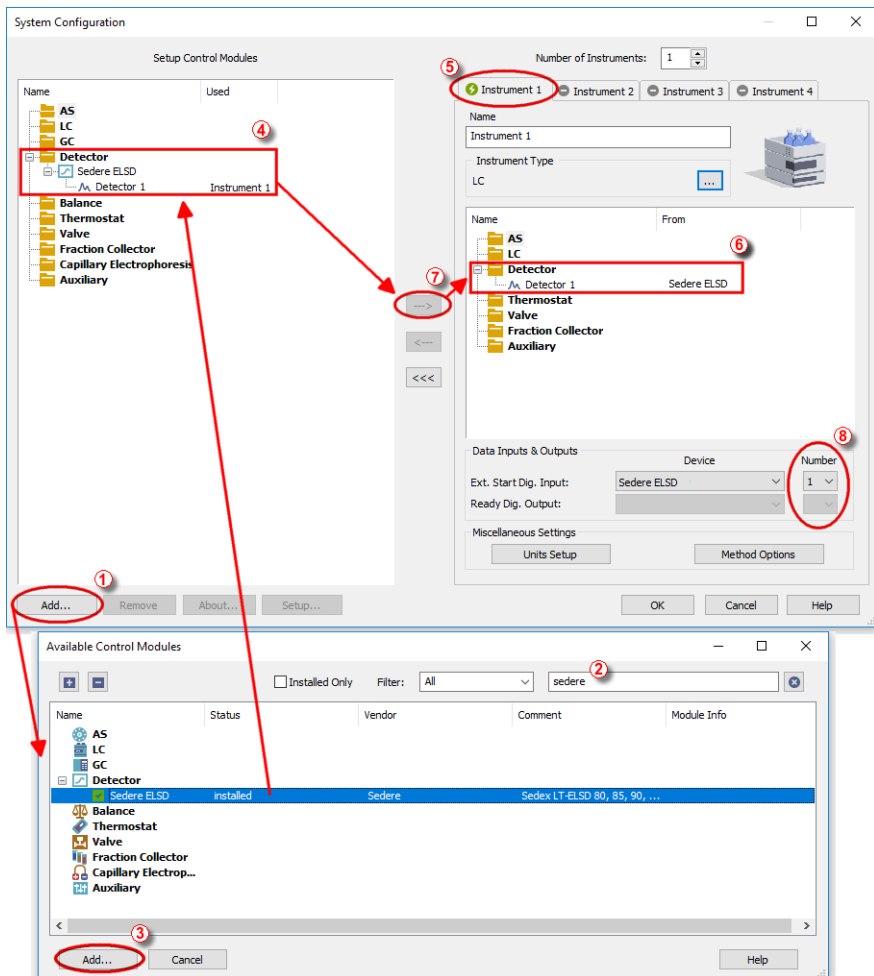

Fig 3: System Configuration
- Press the *Add* button ① (see **Fig 3** on pg 4.) to invoke the Available Control Modules dialog.
- You can specify the searching filter ② to simplify the finding of the driver.
- Select the **Sedere ELSD** and press the *Add* ③ button.